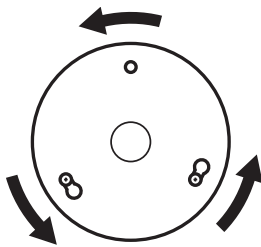

Figure 29 - Mounting the upper switch housing
4. Turn the upper switch housing counterclockwise until the housing assembly screws are firmly situated in the narrow end of the keyhole slots as shown in Figure 29. Install the one remaining #6-32 x 3/8" housing assembly screw into the third hole in the upper switch housing. Tighten all three screws firmly.